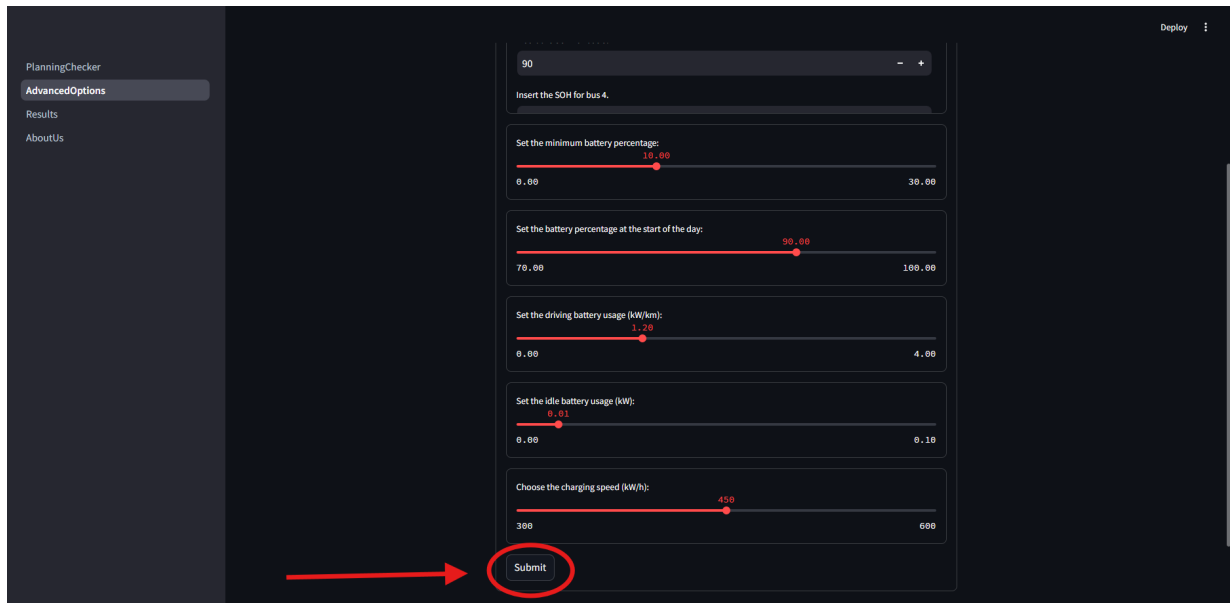

Figure 3: The advanced options screen with the submit button highlighted.
3. Once the settings are set correctly, click 'Submit' to apply the settings and start the checking process (see figure 3).